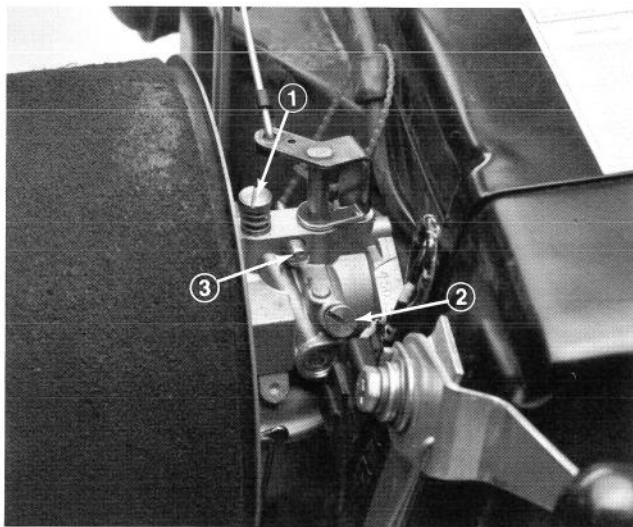

Figure 33
1. Main fuel screw (Fig. 33) — Close screw by gently rotating it clockwise.
3. Idle fuel adjusting screw (Fig. 33) — Close screw by gently rotating it clockwise. Open screw by rotating it 2-1/2 turns counterclockwise.
7. Idle Speed Setting (Fig. 33) — Run engine at half-throttle for 5-10 minutes to warm up. Move throttle to SLOW and set engine speed to 1300 RPM by turning the idle speed adjusting screw clockwise or counterclockwise.